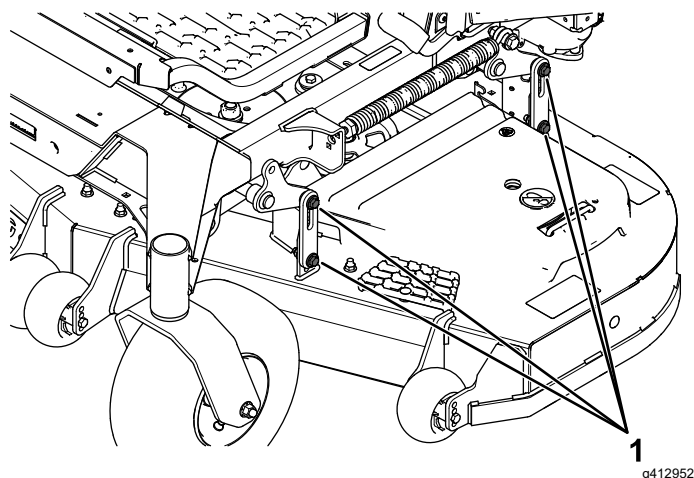

Figure 110
16. Loosen the bolts (Figure 110) on all 4 corners and ensure that the mower deck is sitting securely on all 4 blocks.